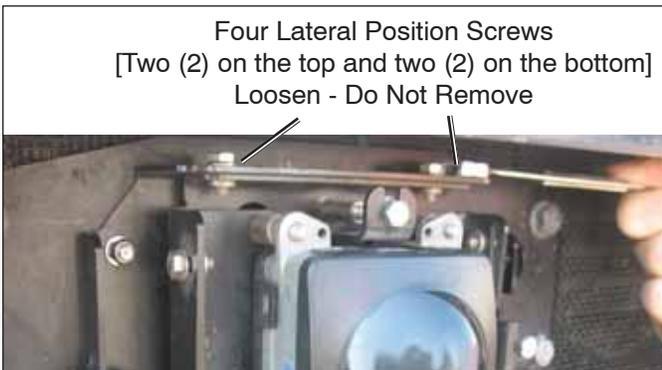

FIGURE 36 - LATERAL POSITION SCREWS
1. Loosen the four lateral position screws. DO NOT fully remove them. See Figure 36.